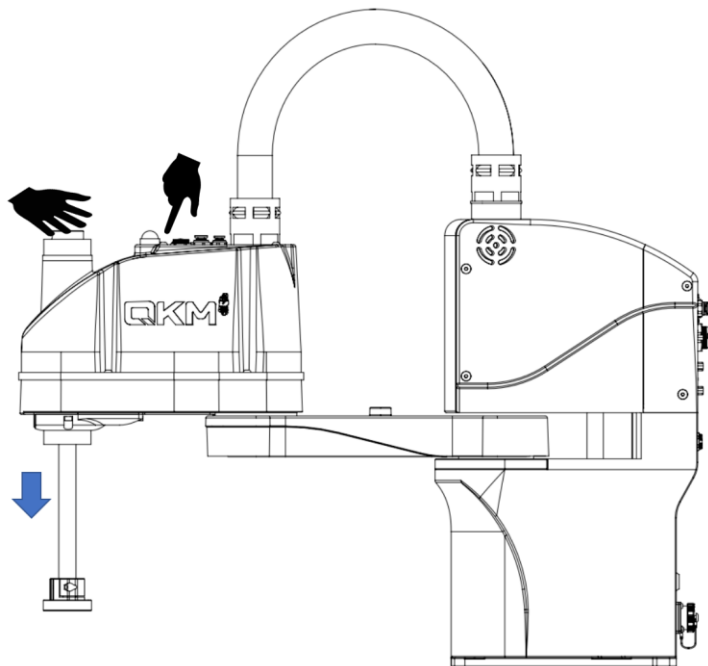

Figure 4-2 Push down spline screw shaft
**Step 1** When the robot is powered on while no servo, wear disposable protective gloves, press and hold the brake button on the mechanical arm 2 of the robot, and push the spline screw shaft to the bottom, as shown in Figure 4-2.